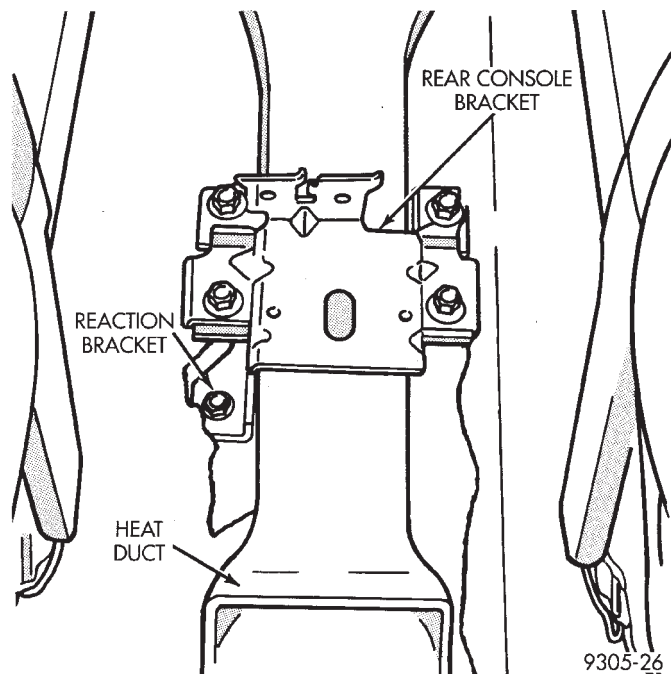
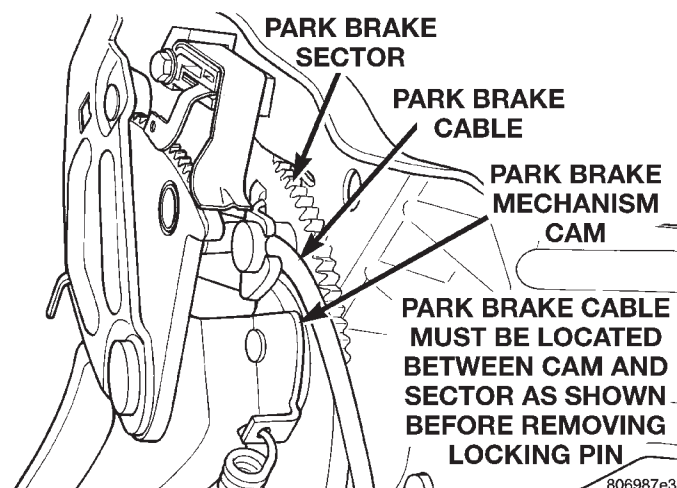
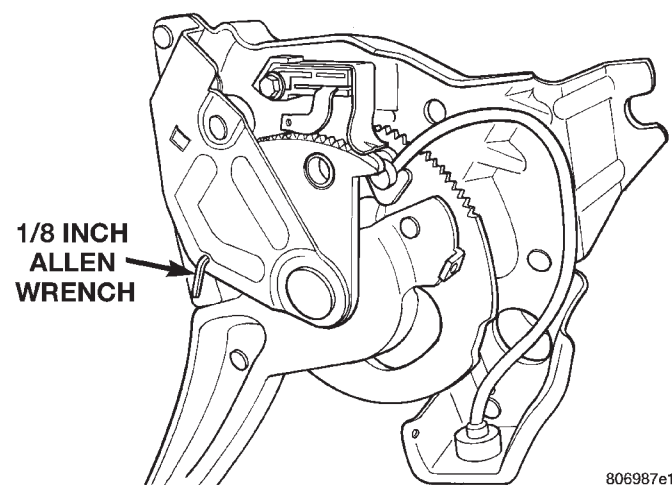

Fig. 108 Console Mounting Bracket And HeatDuct
Fig. 116 Park Brake Cable Routing At Pedal Assembly
Fig. 117 Park Brake Assembly LockPin
(5) Remove rear console mounting bracket (Fig. 108) from park brake cable reaction bracket. Remove rear passenger compartment heat duct (Fig. 108) from vehicle for access to park brake cables.
(8) Ensure that park brake cable is properly routed in cam surface track of park brake pedal assembly (Fig. 116). Using a pair of pliers, firmly grasp the allen wrench previously installed in park brake mechanism (Fig. 117). Remove the allen wrench from the park brake pedal mechanism, using a firm and rapid pull. When allen wrench is removed from the park brake pedal mechanism, the park brake mechanism and park brake cables will automatically adjust. **See parking brake adjustment procedure in this section of the service manual for complete parking brake adjustment procedure.**
(9) Fold carpeting back into position on left floor pan of vehicle. Install throttle pedal and bracket back on dash panel studs and install attaching nuts.
(10) Install rear passenger compartment heat duct (Fig. 108). Install rear console assembly mounting bracket (Fig. 108) on park brake cable reaction bracket. Torque rear console assembly mounting bracket to reaction bracket mounting bolts to 10 N·m (88 in. lbs.).